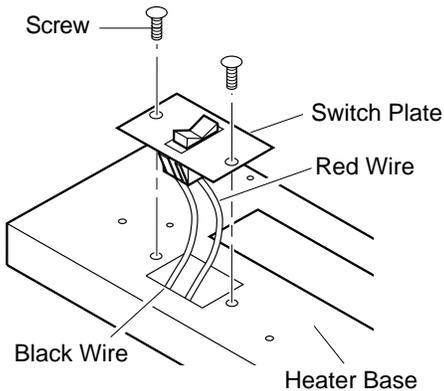

Figure 22 - Switch Plate and Wiring Harness
3. Remove switch plate (see Figure 22). Discard switch plate after removing. Save the screws.